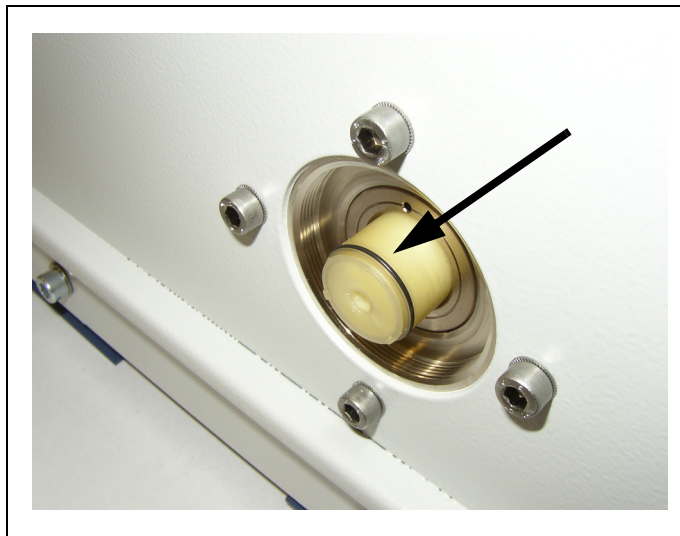

Fig. 8-6 O-Ring of operation fluid reservoir
- 3 Open bottom lid with 19 mm ring spanner wrench and lift out operation fluid reservoir using two small screw drivers (see Fig. 8-6).
- 6 Insert new operation fluid reservoir into the pump up to the O-Ring (see Fig. 8-6).